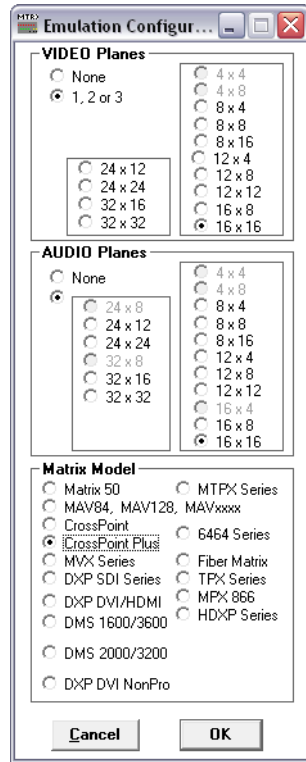

Figure 81. Emulate Configuration Dialog Box
5. See figure 81. Select the appropriate Matrix Model (**CrossPoint Plus** = 450 Plus, **CrossPoint** = Ultra, and **MAV84**, **MAV125**, **MAVxxx** = MAV Plus), the number of Video Planes and Audio Planes (or **None**), and the appropriate matrix size. Click **OK**.